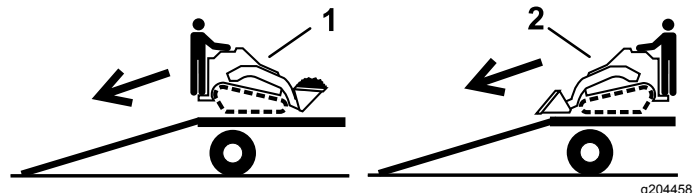

Figure 30
2. Unload the machine from the trailer with the heavy end up the ramp, carrying loads low (Figure 30).